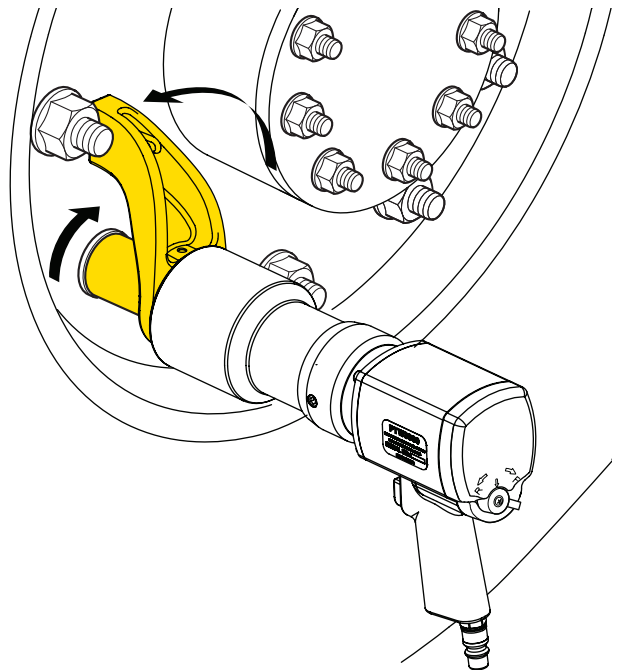

Fig. 8
9. Fig. 8 shows the position for the reaction arm when the square drive rotates clockwise.
11. To tighten a fastener (or to apply torque in the clockwise direction): Be sure the adjustment lever is set to the “F” position, and that the reaction arm is positioned as shown in Fig. 8. Then, fully depress the trigger, and keep it depressed until the wrench stalls.